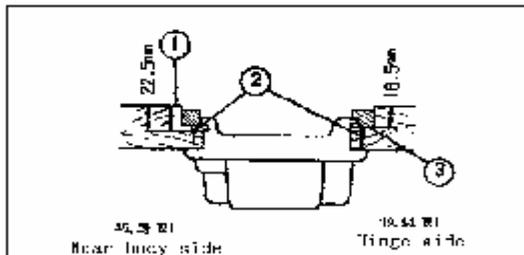

Fig.1
四、机器的安装(图 1)
1. 油盘的安装: 将油盘支座①和油盘座③装在台板矩孔的四角,用油盘座钉②将其固定,再装上油盘(图 1).
4、Installation of the machine(Fig. 1)
Put the oil reservoir rubber cushion ① and oil reservoir felt cushion ③ on four corners of the opening of the table, fix them with the wood screws ②, then instal the oil reservoir(Fig. 1)